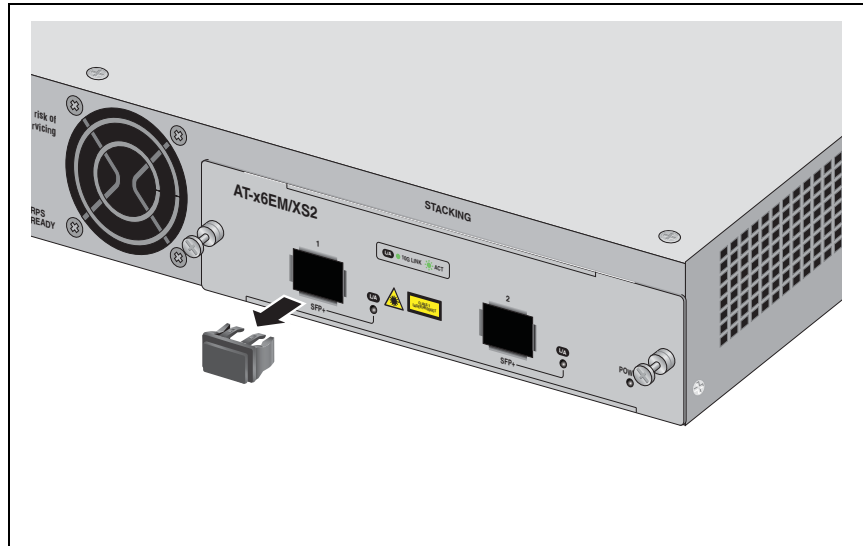

Figure 47. Removing a Dust Plug from a SFP+ Slot
1. Remove the dust plug from a transceiver slot on the switch, as shown in Figure 47.